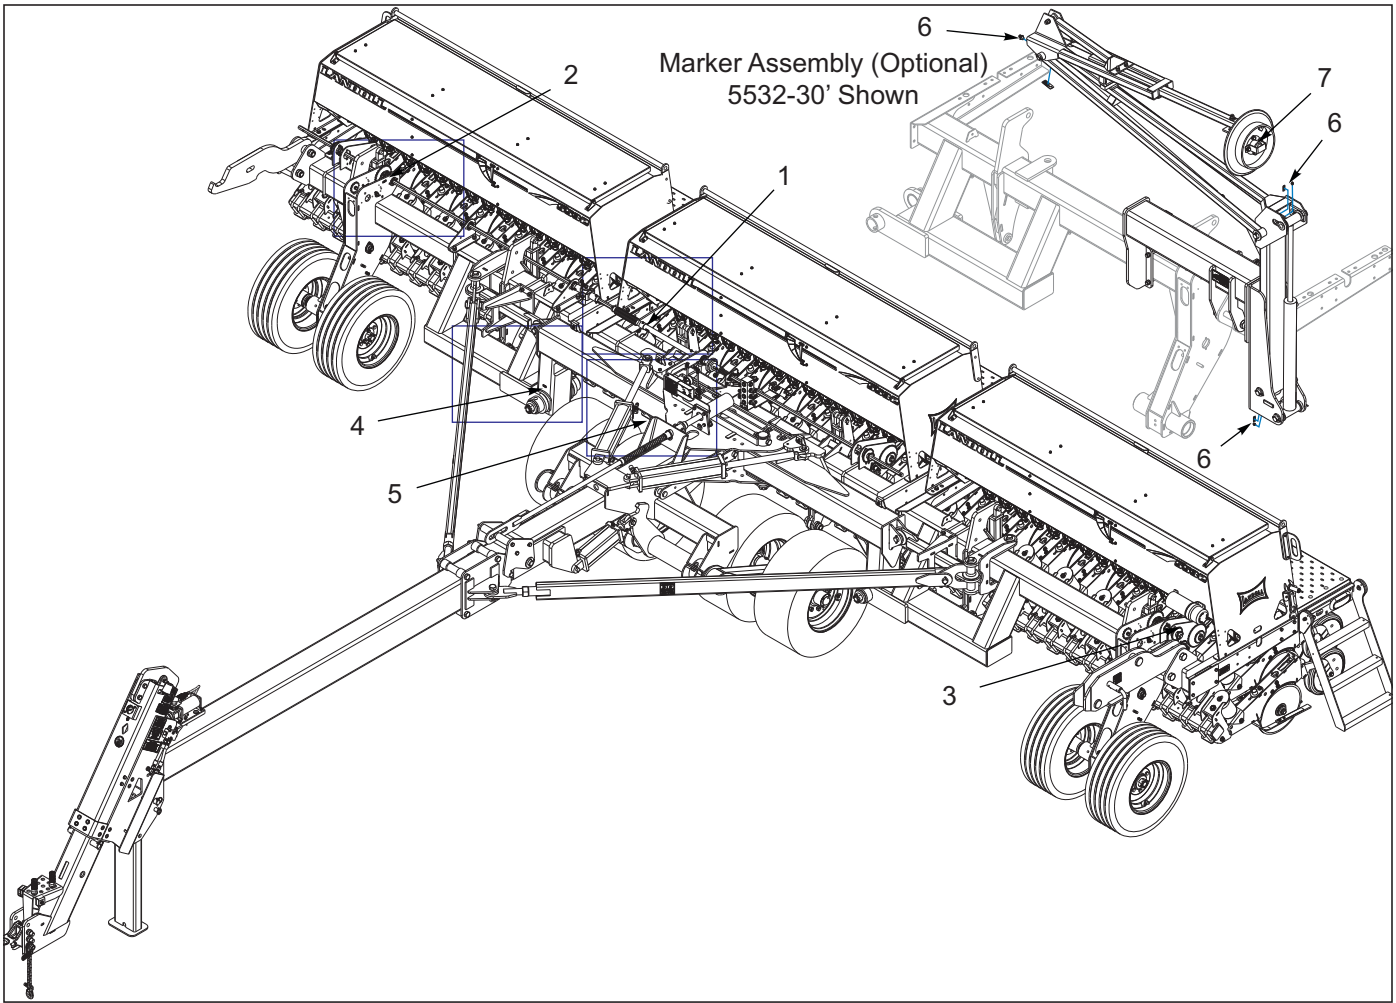
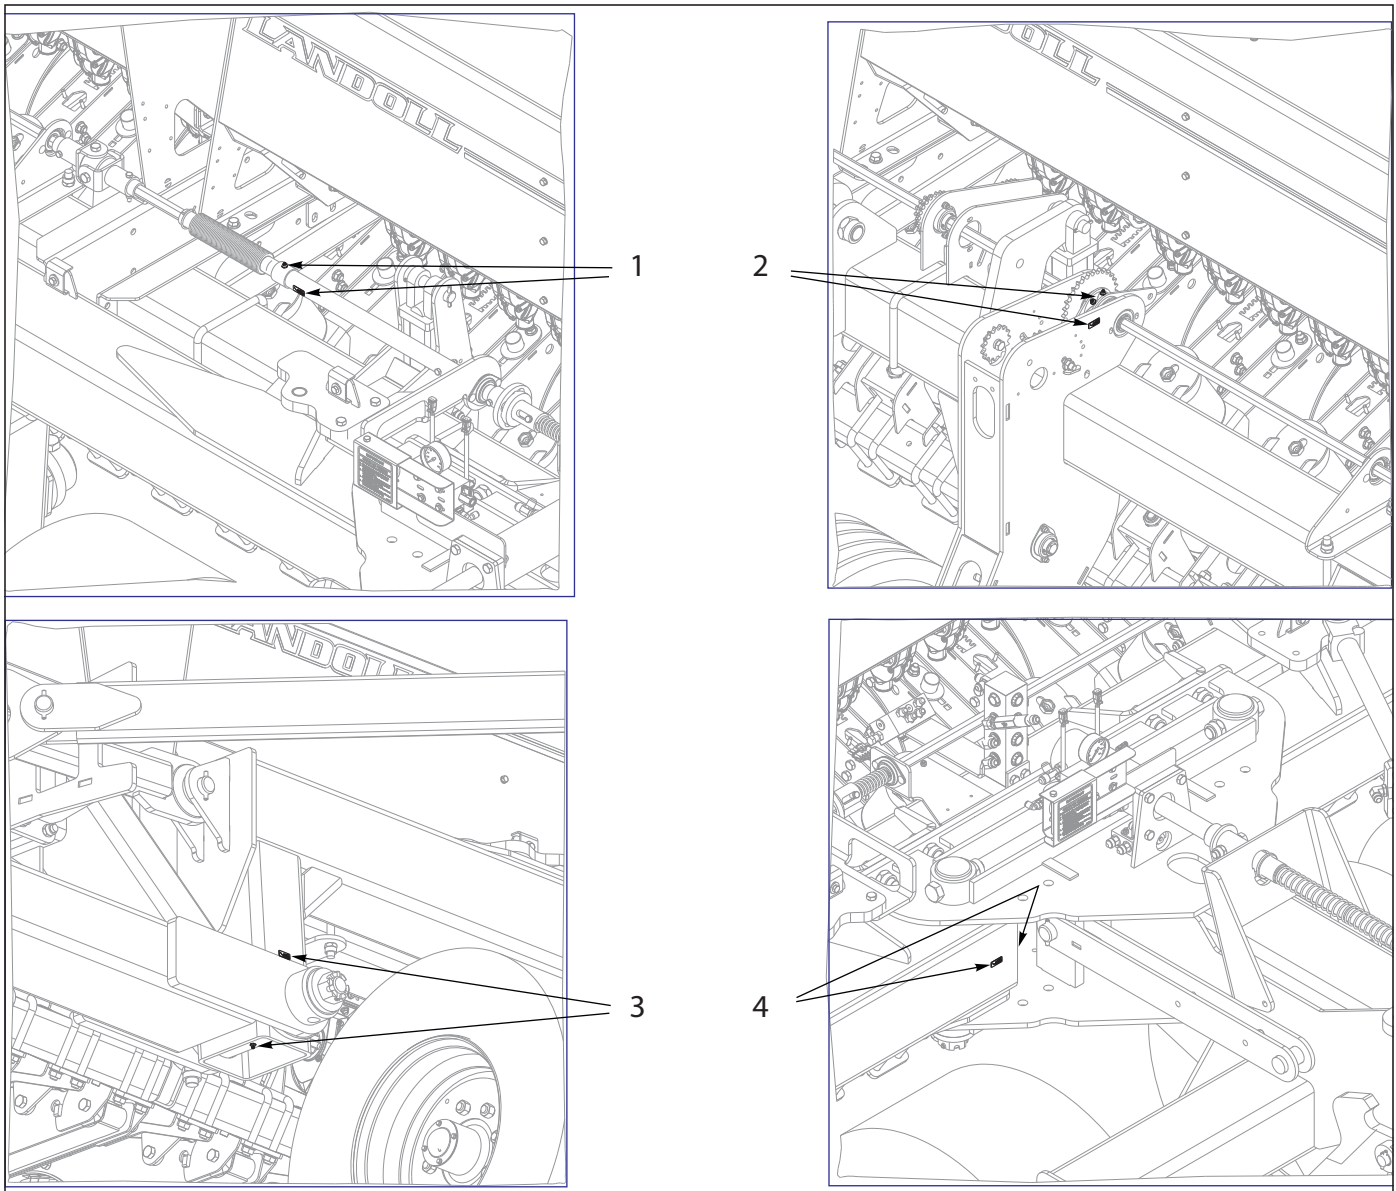

Figure 5-3: Lubrication Points (1 of 2)
Figure 5-4: Lubrication Points (2 of 2)
1. **Table 5-1** specifies the lubrication points and intervals on the 5531 Grain Drill. Proper maintenance of your machine will, under normal operating conditions, help to keep it operating at or near its peak performance for an extended period of time. Proper maintenance is also a condition of keeping your warranty in good status *See Figure 5-3* and *See Figure 5-4*.